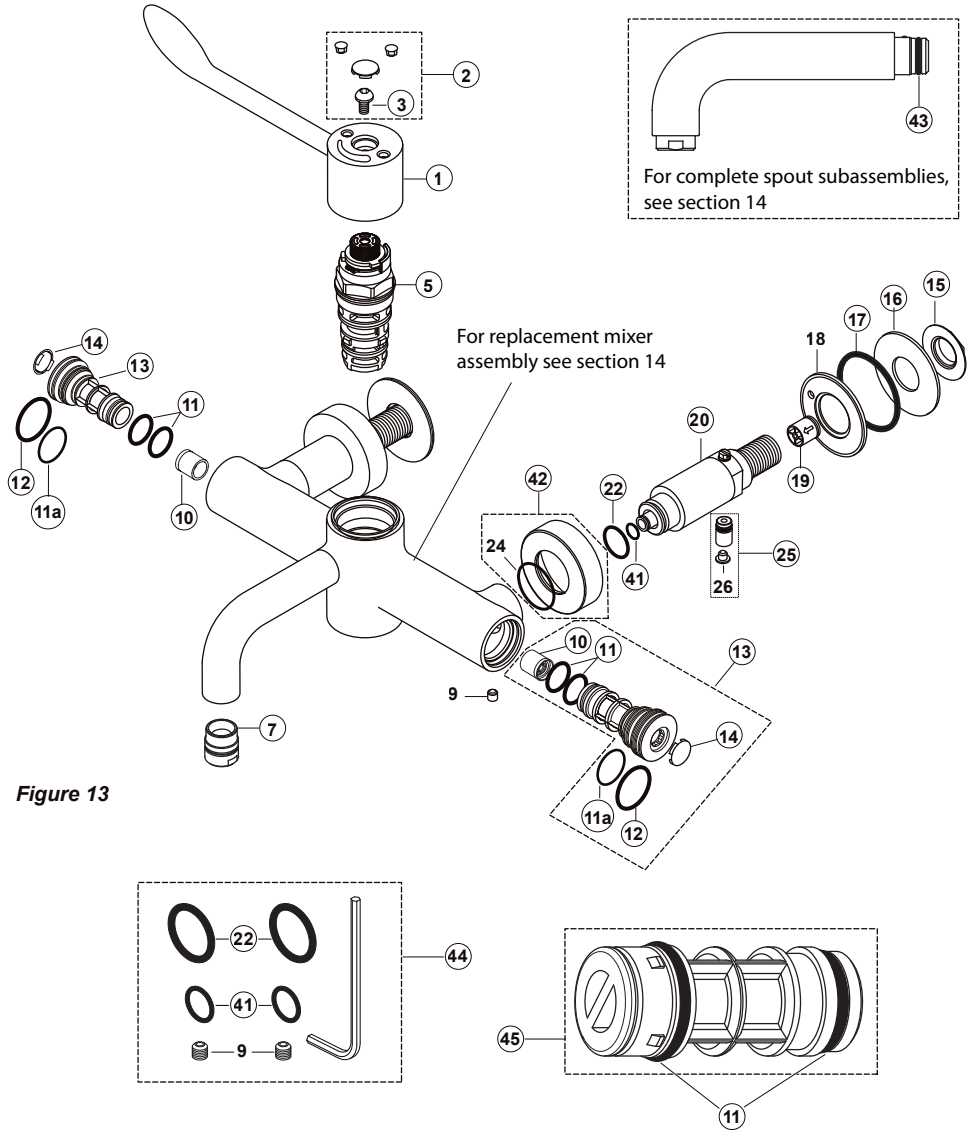

Figure 13
To prevent back siphonage of water to the supply pipes, check valves are fitted inside the inlet tails (19) – see figure 13.
*To achieve a suitable flow rate where supply pressures are very low it may be necessary to remove the flow regulator (*item 10 figure 13*).